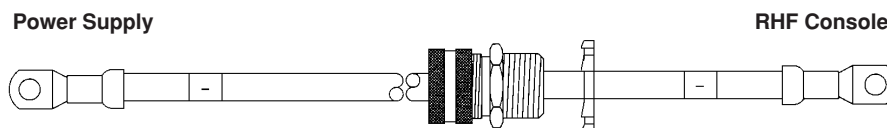

Figure 3-11 Negative Lead (-)
② Negative Lead (-) (Figure 3-11)